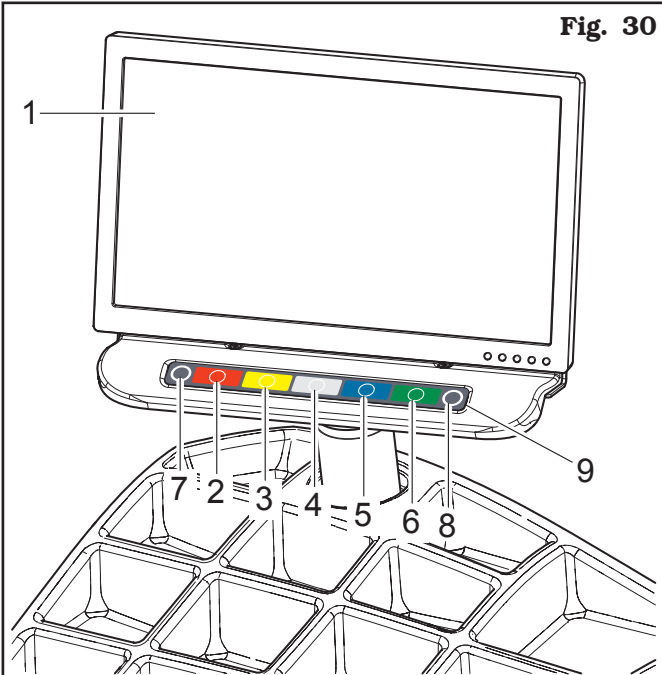

Fig. 30
At the bottom of the main screen page and of each screen page described below, there will be coloured rectangles (**Fig. 31 ref. V**) located above function identification icons (**Fig. 31 ref. C**). These functions are activated by pressing the appropriate coloured button on the push-button panel (**Fig. 30 ref. 9**).